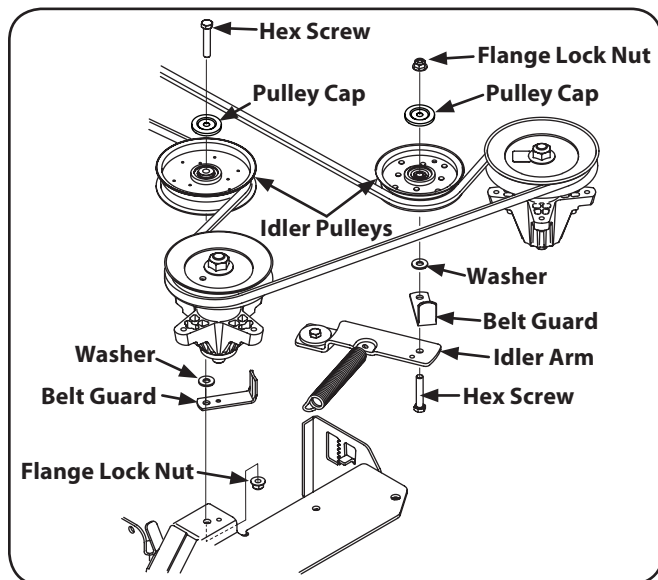

Figure 7-8
3. Remove the two idler pulleys by removing the hex screws and flange lock nuts that secure them to the deck and the idler arm. See Figure 7-8. Do not lose any of the hardware when removing the hex screw and flange lock nut.
6. Place the belt around the idler pulleys removed in step 3 with the "V" side facing in. Once in place, reinstall all the hardware and tighten the flange lock nut to secure the assembly. See Figure 7-8.